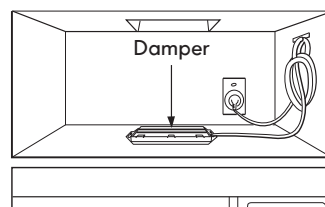

Figure 34
5. Roof vented installation: See Figure 34.